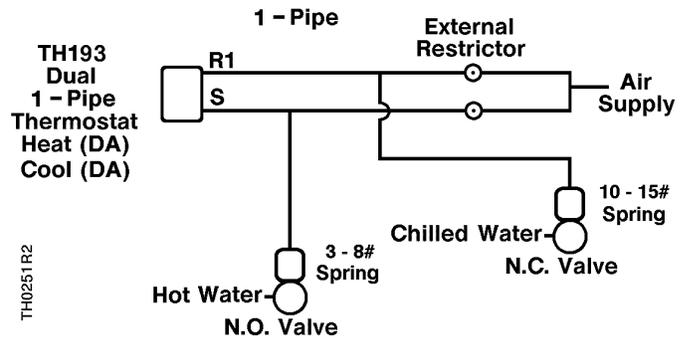

Figure 4. Dual One-pipe Thermostat.
- Slow to supply, fast to exhaust. See Figure 4.